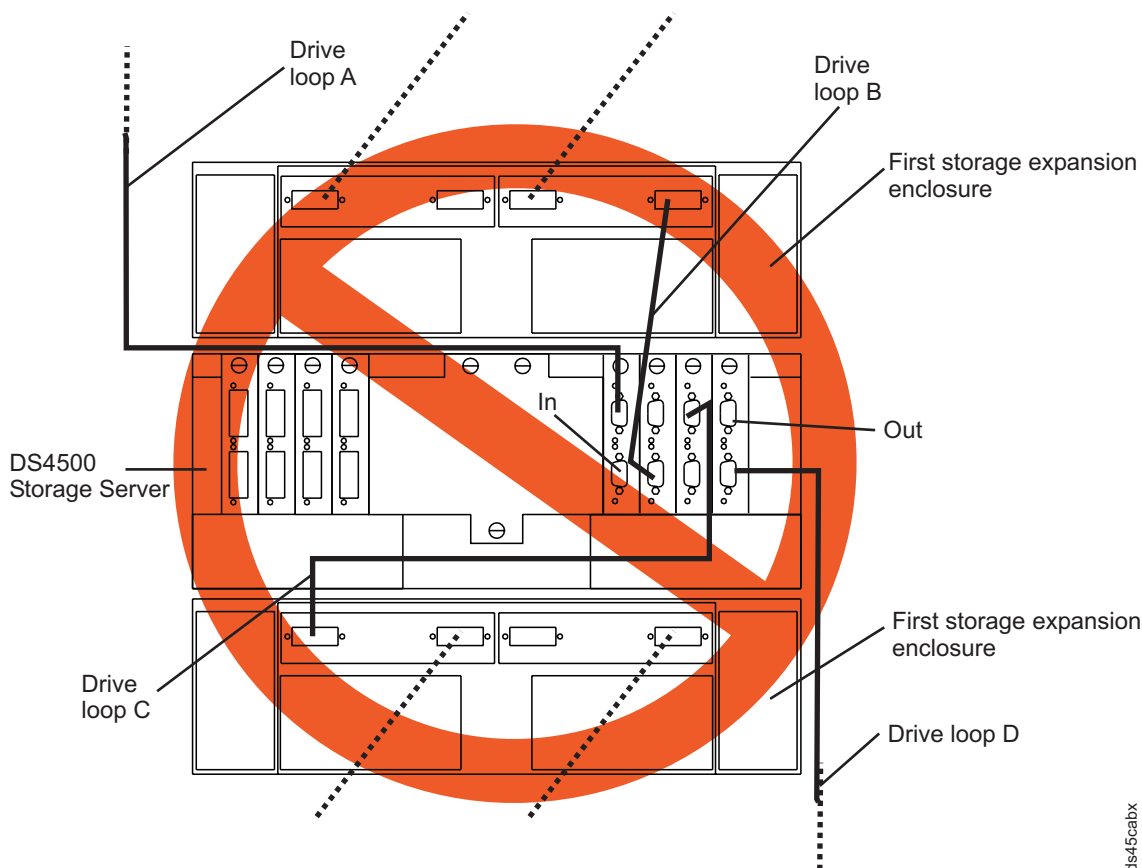

Figure 6. Incorrect drive loop cabling in DS4500 configuration with four drive mini hubs installed
**Attention:** Previous DS4500 cabling documentation identified incorrectly the connections of drive loops B and C in DS4500 configurations with four drive mini hubs installed. Drive loop B was incorrectly shown as connecting to mini hub 3 and drive loop C was incorrectly shown as connecting to mini hub 2. Do not use the incorrect connections for drive loops B and C that are currently documented in the original *IBM TotalStorage DS4500 Fibre Channel Cabling Instructions* (pn 25R0406) and the *IBM TotalStorage DS4500 Installation and Support Guide*. For reference, this incorrect connection scheme is shown in Figure 6. Instead, use the correct connections (drive loop B connects to mini hub 2 and drive loop C connects to mini hub 3) as shown in Figure 5 on page 7 and as described in “Configuring the drive loops” on page 10 of this document.